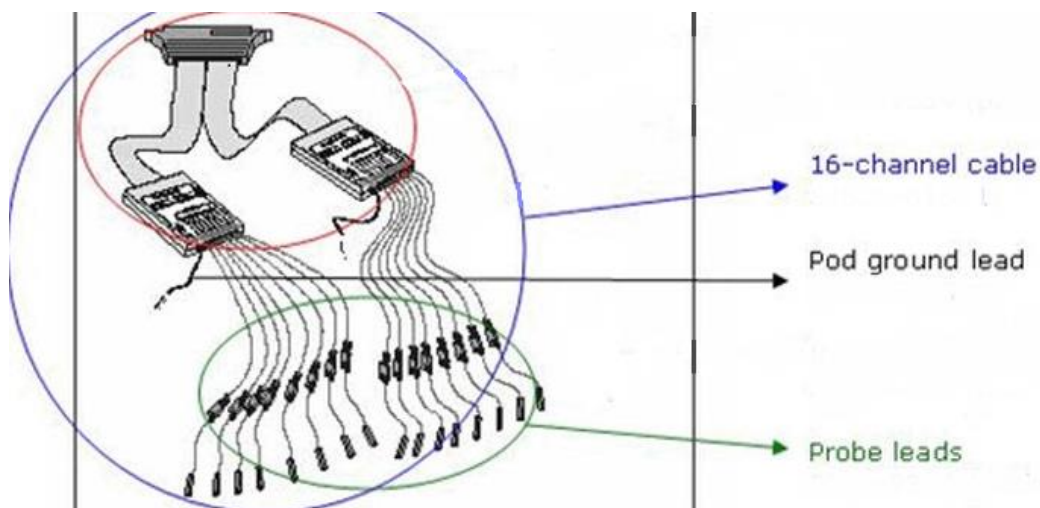
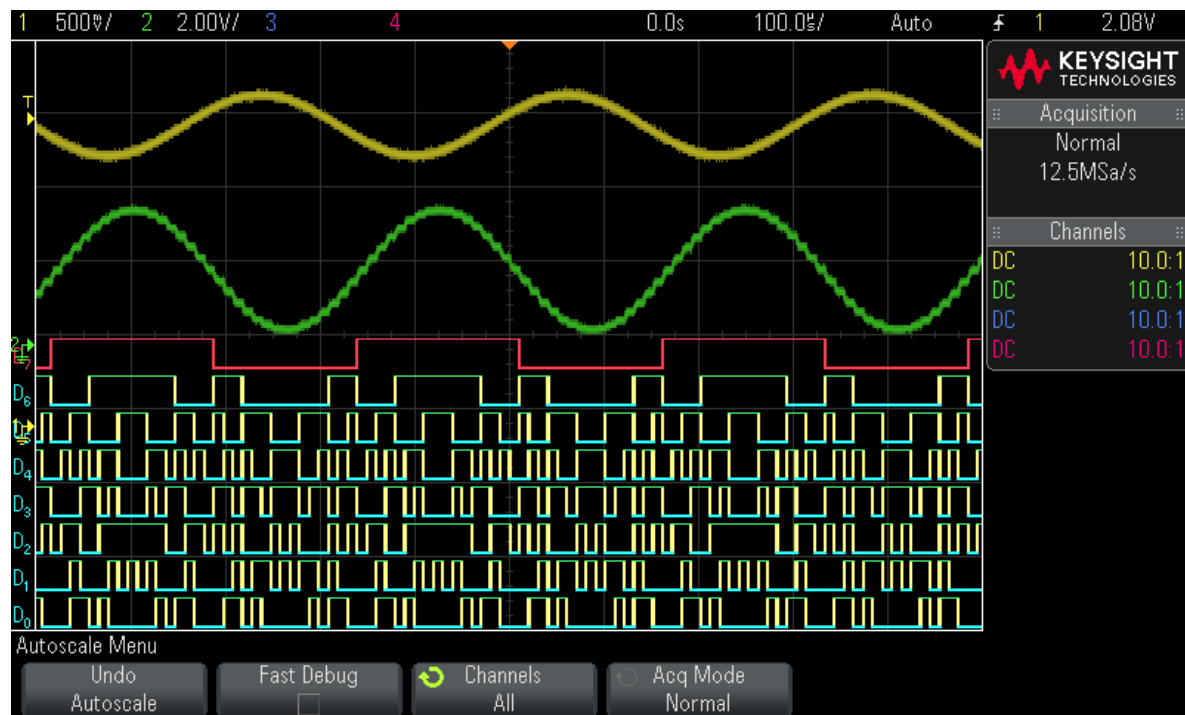

Figure 5. Logic Analyzer Probes
Figure 6. Analog and Digital Waveforms
- The probes look similar to those shown in Figure 5. The MSO has two logic analyzer probes, one for digital inputs zero through seven and the other for eight through sixteen. Both logic analyzer probes are shown below in Figure 6. This tutorial will utilize five of the 16 digital inputs, which will be referred to as D0, D1, D2, D3 and D4 for channels 0, 1, 2, 3, and 4, respectively.
- Figure 6 illustrates both analog and digital channels displayed together on the Keysight X 3012A MSO screen. The analog channels are displayed at the top of the screen while the digital channels are displayed below them. It should become clear upon viewing Figure 7 what the differences between analog and digital channels are.